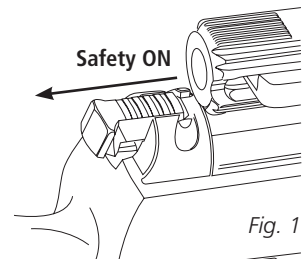

Fig. 1
- To set the safety to "ON", pull safety button. In this position, the trigger cannot be pulled and the gun cannot be shot (Fig. 1).
CAUTION: Until you are actually ready to shoot, keep the safety button in the "ON" position (Fig. 1).